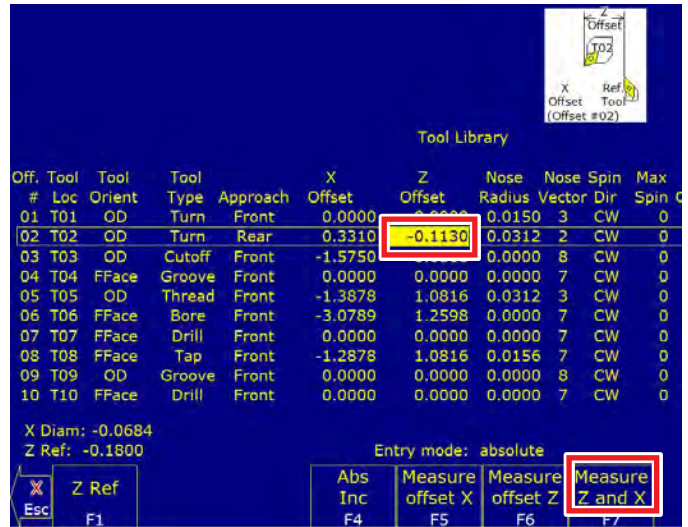

FIGURE 13
B. Click on Setup F1, Tool Offset F2, Highlight the tool / Axis Z, Measure Tool F2, Measure Z & X F7 (see Figure 13).